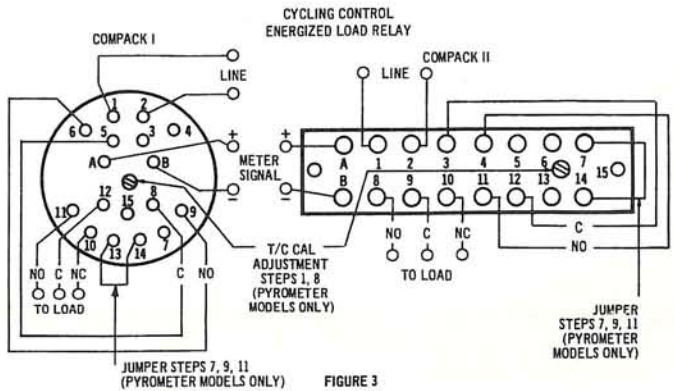

FIGURE 3
3. Interlock or Cycling Control: A double set point Compack may be connected so that the load relay cycles on at the low set point and off at the high set point. This is accomplished by operating one set point in the limit connection while the other relay does the unlatching. (See Figure 3.) NOTE: Difficulty may be experienced if start-up is attempted with the indicating pointer between the two set points. This may be corrected by momentarily moving the low set point above the indicating pointer or by using a start-up time delay relay to open the high release contacts. When connected as shown in Figure 4, relay logic is reversed, cycling on at the high set point and off at the low set point. NOTE: Difficulty on start-up may be corrected by momentarily moving the high set point below the indicating pointer.